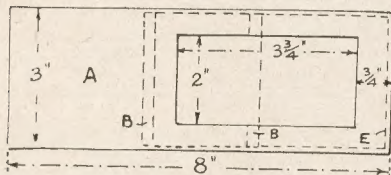
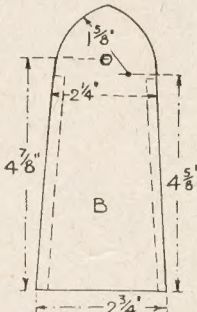
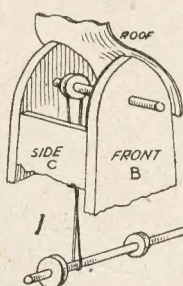

Fig. 1—Outline of floor and opening
Fig. 2—How to mark the sides
Fig. 3—How the sails are driven from the axles
The first part to make will be the floor (A) shown in Fig. 1. Mark this out in pencil direct on to wood and cut with the fretsaw. Follow this by setting out and cutting the front and back walls (B) of the mill, see Fig. 2. Having made one piece, lay it on a second and mark round it to get the exact duplicate shapes. See the holes for the axles of the sails are identical on both pieces.
Next make the sides (C) of the mill. These are simply two pieces measuring 4½ ins. by 2 ins. They are glued between the front and back shown in Fig. 3 and by the dotted lines in Fig. 2. This completes the construction of the mill except for the roof which will be added later.
It might, however, be said now that the roof can be formed from tin or stout card bent to the pointed shape of the front and back and pinned on. A detail of part of the roof is shown in Fig. 3.
It will be observed from Fig. 1 that the mill itself is glued and nailed or screwed to the top of the floor in the position shown by the cross dotted lines (B). There is an open space left